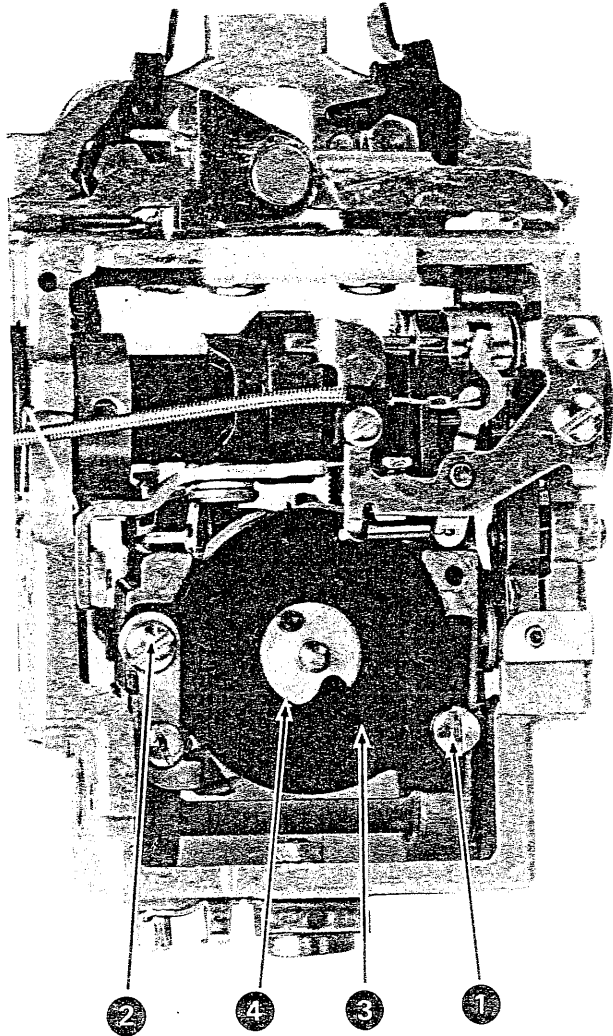

Figure 4-15. Rotate-Spring Replacement (Step 8)
- c. On machines without striker or bearing, remove the right-hand screw (No. 1, Figure 4-15) and back out the upper left screw 1/4" (No. 2, Figure 4-15). It is not necessary to loosen the lower left screw.
- 8. Remove the striker (if present) and rotate-spring retaining plate (No. 3, Figure 4-15). The rotate spring can now be removed.
- d. The rotate-spring retaining plate (No. 3, Figure 4-15) must not bind the rotate-pulley hub (No. 4, Figure 4-15)